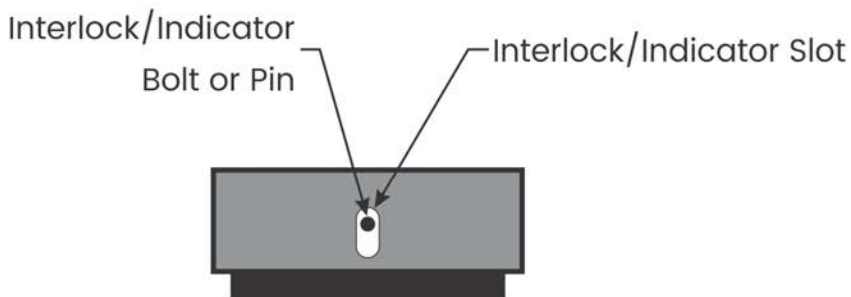
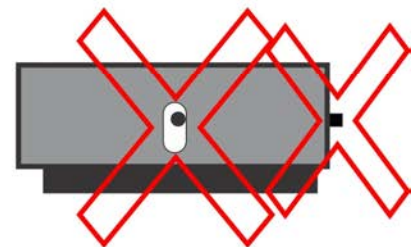

Figure 3A
Figure 3B
- Models 216 and Two-Screw BFM Series isolators are equipped with four Interlock/Indicator bolts or pins. These serve as a quick check for centering the resilient cushion. The Interlock/Indicators should be centered side-to-side in the interlock slots as shown in Figure 3A. If the resilient cushion is not centered, the Interlock/Indicators appear as shown in Figure 3B.